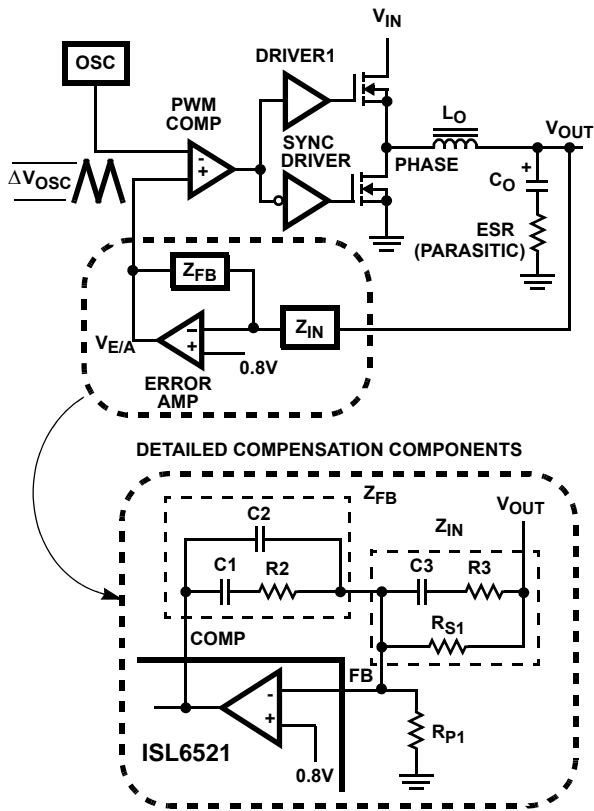
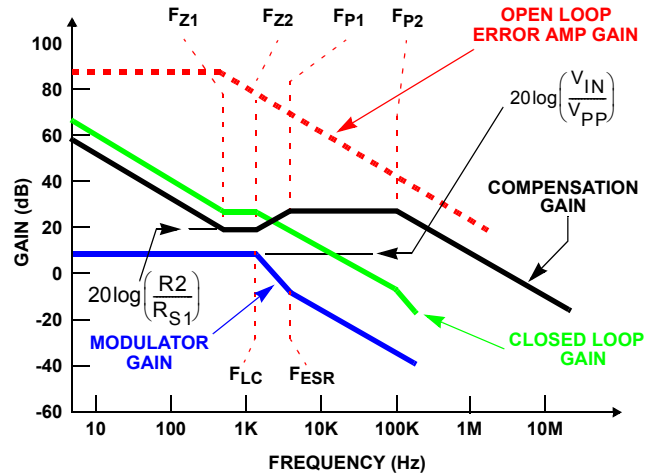

FIGURE 5. VOLTAGE-MODE BUCK CONVERTER COMPENSATION DESIGN
FIGURE 6. ASYMPTOTIC BODE PLOT OF CONVERTER GAIN
and  $Z_{FB}$ . The goal of the compensation network is to provide a closed loop transfer function with high 0dB crossing frequency ( $f_{0dB}$ ) and adequate phase margin. Phase margin is the difference between the closed loop phase at  $f_{0dB}$  and 180 degrees. The equations below relate the compensation network's poles, zeros and gain to the components ( $R1$ ,  $R2$ ,  $R3$ ,  $C1$ ,  $C2$ , and  $C3$ ) in Figure 5. Use these guidelines for locating the poles and zeros of the compensation network:
Figure 6 shows an asymptotic plot of the DC-DC converter's gain vs. frequency. The actual Modulator Gain has a high gain peak dependent on the quality factor (Q) of the output filter, which is not shown in Figure 5. Using the above guidelines should yield a Compensation Gain similar to the curve plotted. The open loop error amplifier gain bounds the compensation gain. Check the compensation gain at  $F_{P2}$  with the capabilities of the error amplifier. The Closed Loop Gain is constructed on the log-log graph of Figure 6 by adding the Modulator Gain (in dB) to the Compensation Gain (in dB). This is equivalent to multiplying the modulator transfer function to the compensation transfer function and plotting the gain.